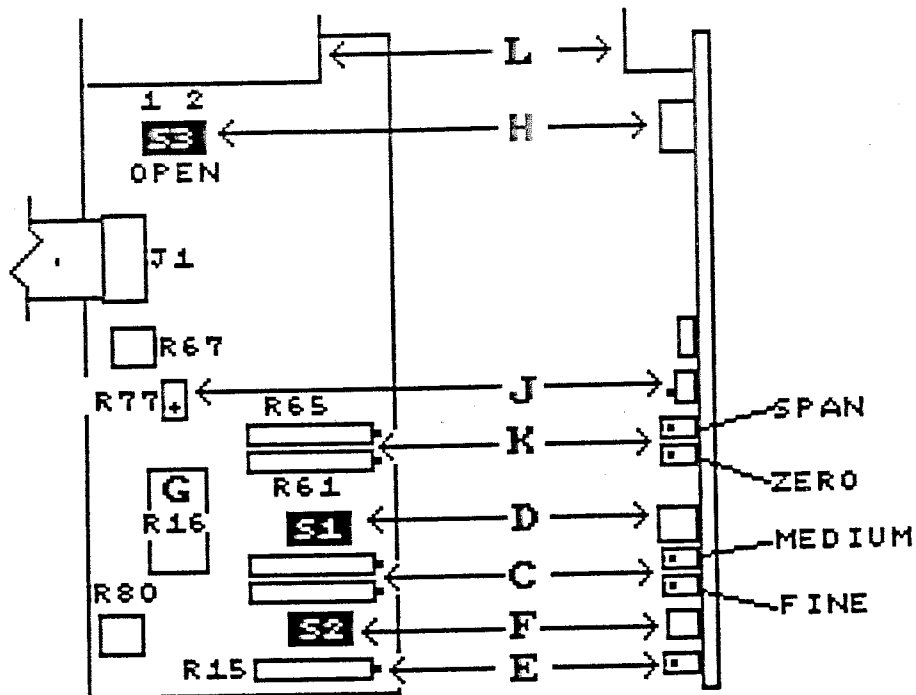

FIGURE 5.1
Figure 5.1 on the preceding page show the location of the A/D Converter Assembly and the switches and controls used to calibrate the analog section of the unit. The following sequence should be used in analog calibration:
5.4 a. Set the span adjustments, using the coarse span switches (C), the medium and fine span controls (D), as outlined in Figure 5.1 .